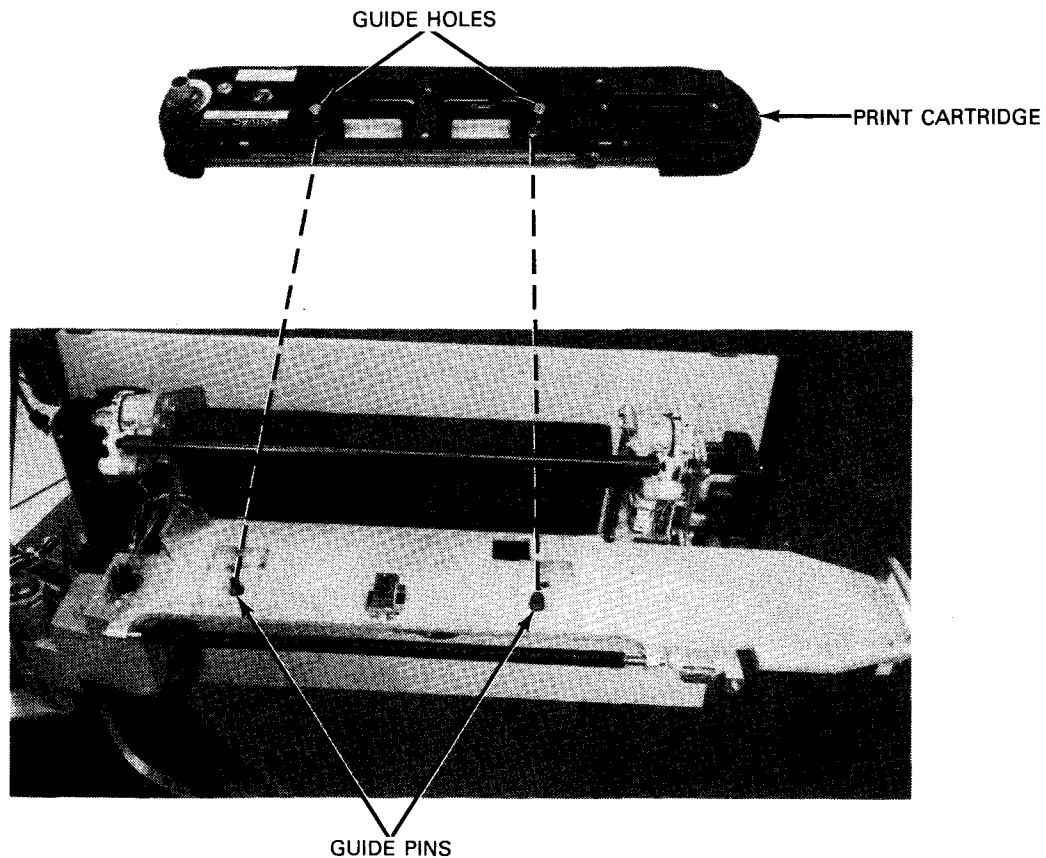

Figure 5—105. Print Cartridge Removed From Print Carriage
7. Using the plastic gloves, remove the upper ribbon spool from its upper spool holder and rethread the ribbon around the front of the print carriage, passing the print band, then remount the upper ribbon spool to the upper spool holder (Figure 5—102).